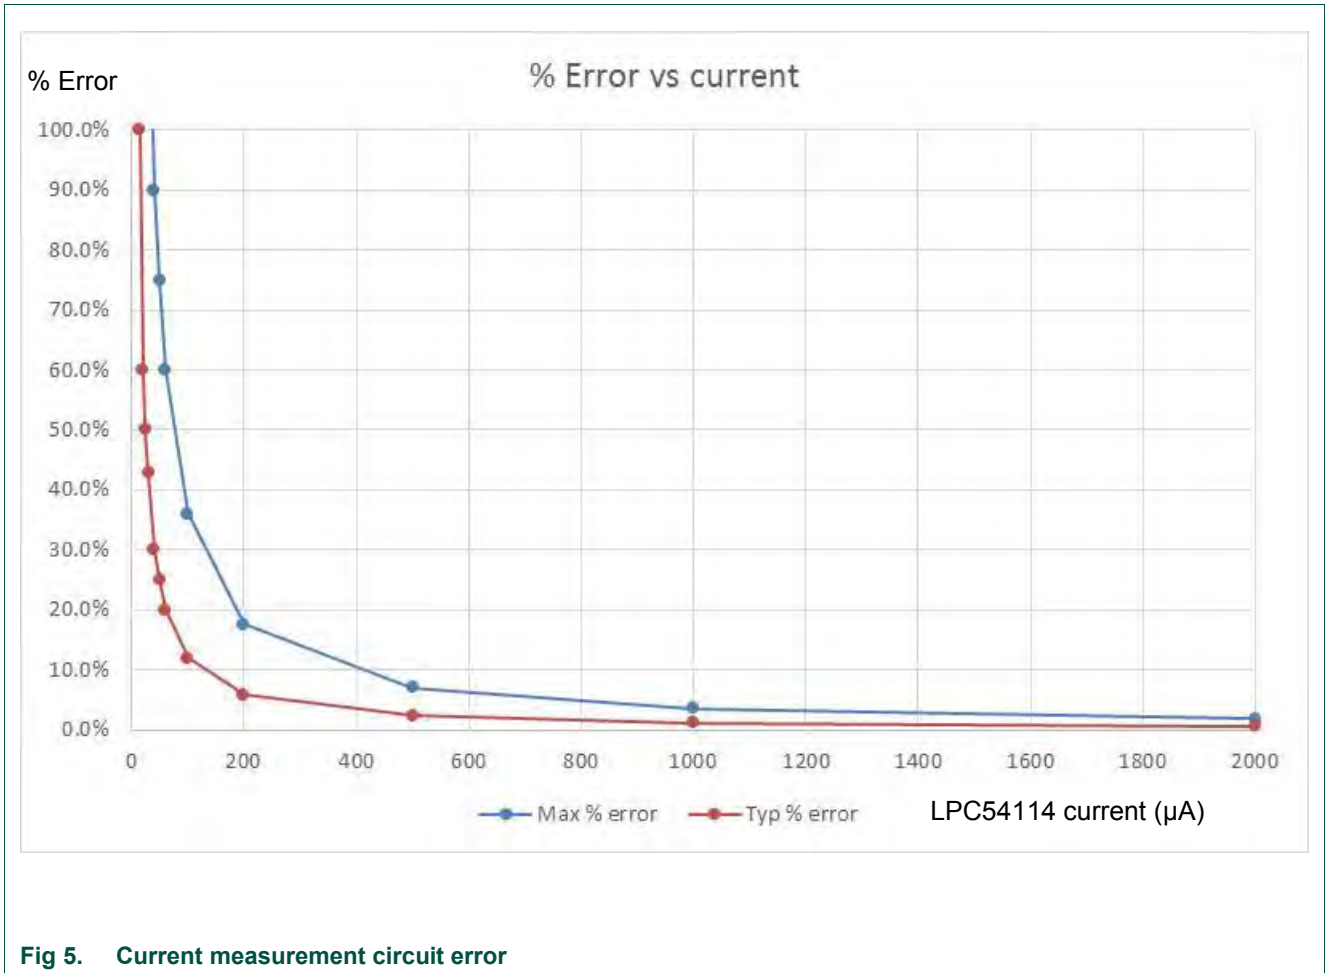

Fig 5. Current measurement circuit error
The LPCXpresso54114 board has an on-board current measurement circuit consisting of a MAX9634T (U5) current monitor chip and a 12-bit ADC (ADC122S021, U11) with a 12-bit sample at 50k to 200ksps. The on-board MAX9634T current monitor measures the voltage across the LPC54114 VDD vsense resistors; either 8.24Ω or 4.12 Ω if JP3 is installed. The MAX9634 multiplies the sense voltage by 25 to provide a voltage range suitable for the ADC to measure. A 2-input analog mux selects between the LPC54114 current monitor and the output on a MAX9634T current monitor chip on an expansion board (with compatible current measurement circuit on-board). The current measurement circuit is controlled by the Link2 processor and is not user programmable. Power measurement utilities to use this feature are available in the LPCXpresso IDE installation. Due to input offset voltage variations in the MAX9634, the current measurement circuit is not recommended for measuring current below 150uA. See Fig 5 as a guideline for measurement error versus measured current.
- Fig 5. Current measurement circuit error 13